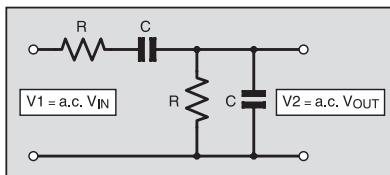

Fig.1. The basic Wien circuit. Note,  $V_{OUT}$  is in-phase with  $V_{IN}$  when a.c. frequency  $f = 1/2\pi RC$ .
In the early days of telegraphy by wires, Wheatstone produced a d.c. bridge-circuit for the measurement of electrical resistance. By adding two capacitors to Wheatstone's bridge, Wien converted it to an a.c. bridge capable of measuring capacitance, inductance, and frequency. Wien's dual resistor/capacitor (RC) circuit as shown in Fig.1 was later adopted as the feedback circuit by which to convert an amplifier into an oscillator.